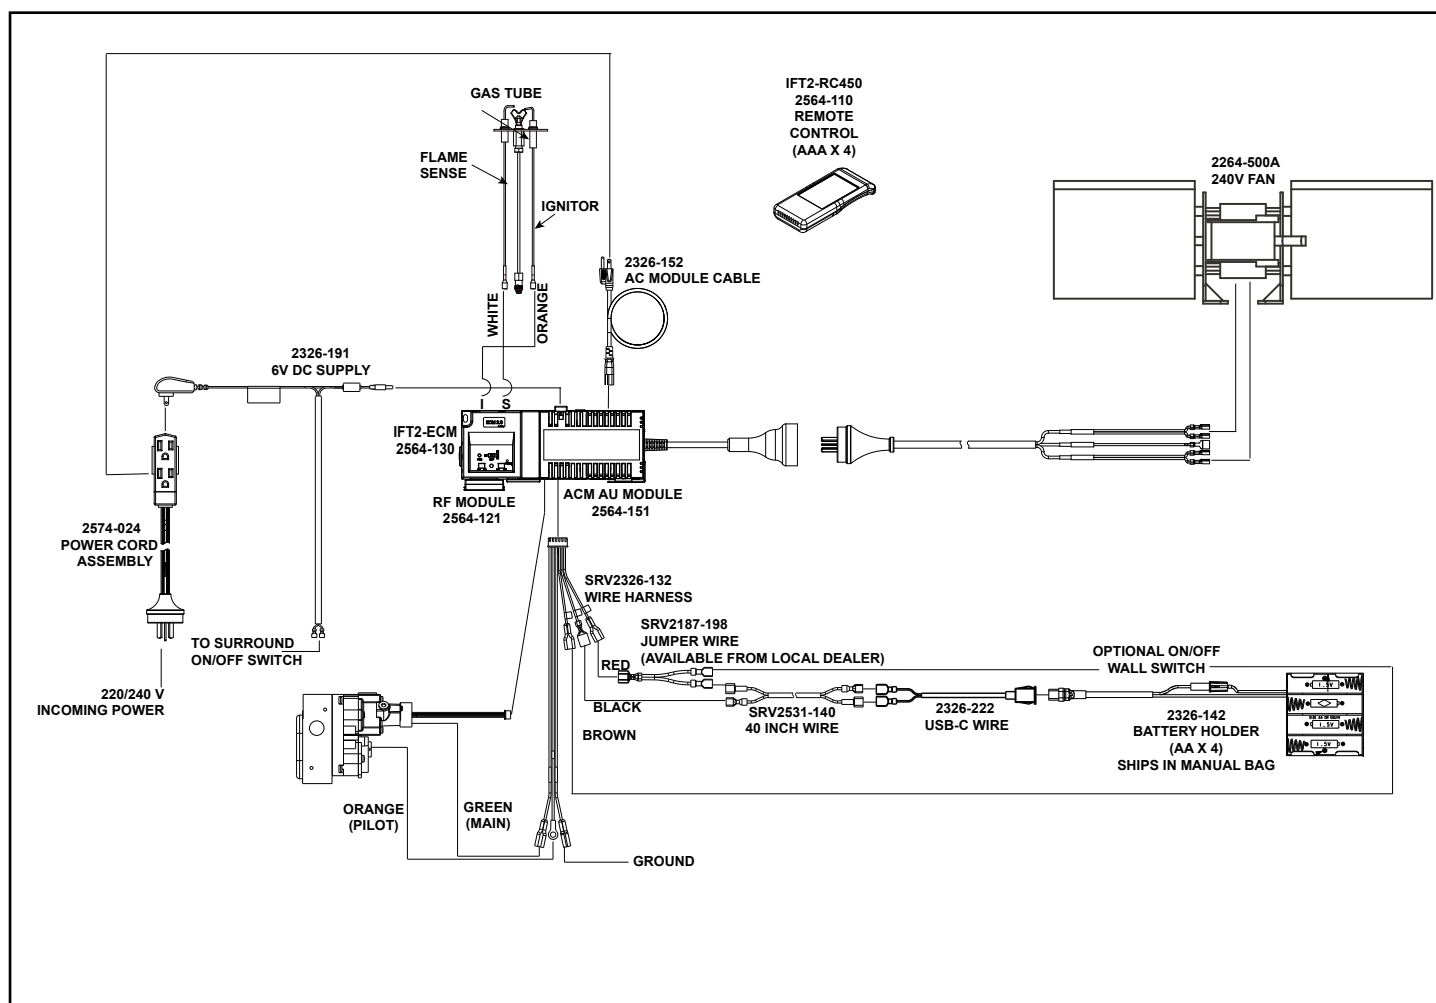

Figure 6.2 IntelliFire Touch Wiring Diagram with Remote
- Refer to Figure 6.2, IPI Wiring Diagram.
- Service / replace the fan. Figure 6.2 shows a wiring diagram.